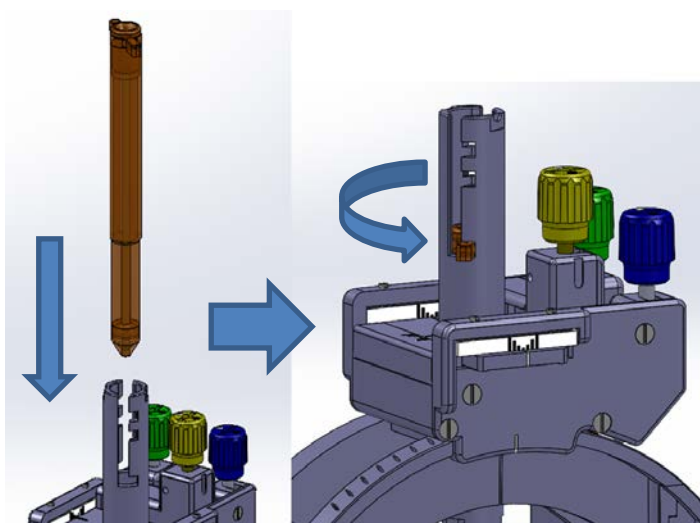

Figure 14: Inserting a Device Guide
5. Insert the desired Device Guide into the TC Support so that the tabs on the Device Guide fit into the long vertical slot on the TC Support. Then twist the Device Guide so the tabs engage the slots to lock it in position. **See Figure 14.**